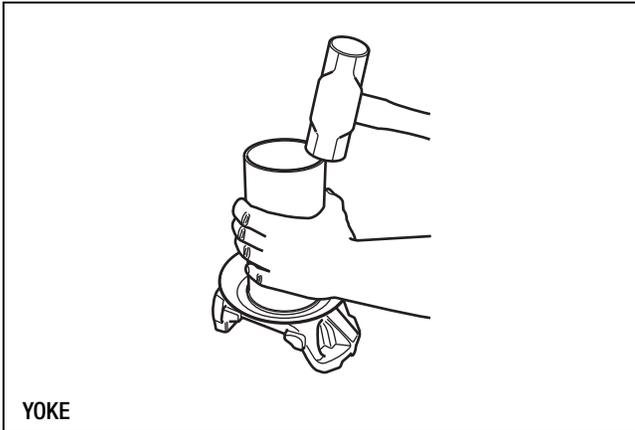
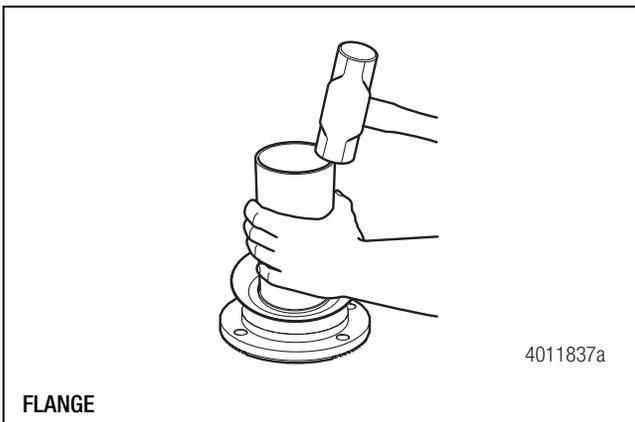

Figure 9.18
Figure 9.19
4. If a deflector is required, use a section of tubing and a brass hammer to press the deflector remaining onto the end yoke or flange to avoid damaging the deflector. Figure 9.18 and Figure 9.19.